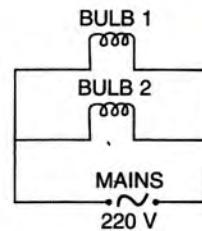

Fig. 9.11
- The arrangement of two identical bulbs in parallel with the mains is shown in Fig. 9.11. In this arrangement, voltage across each bulb will be $V = 220$ volt and then power spent in each bulb will be 60 W.